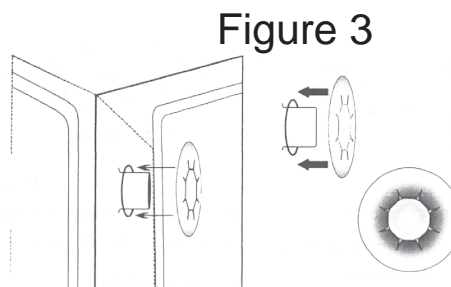

Figure 3
3. Take one push-washer and slide it all the way down over the plastic post to secure the 2 pieces together. Repeat for the other plastic post. (Figure 3)